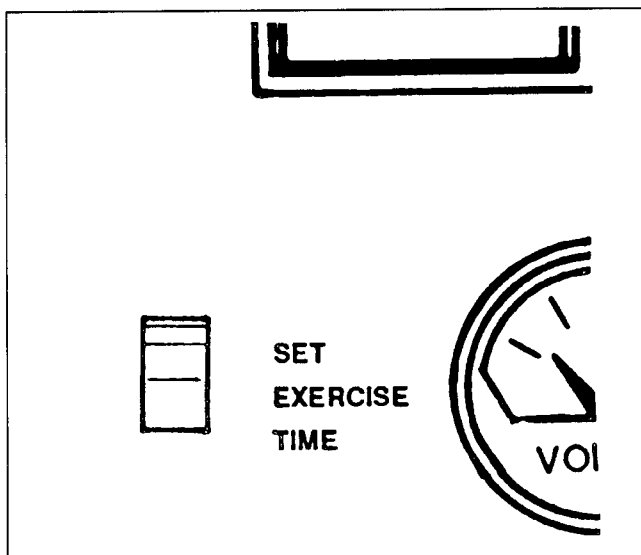

Figure 29. Location of Set Exercise Switch
- Locate rocker switch on the control panel identified with the words "Set Exercise Time" (Figure 29).